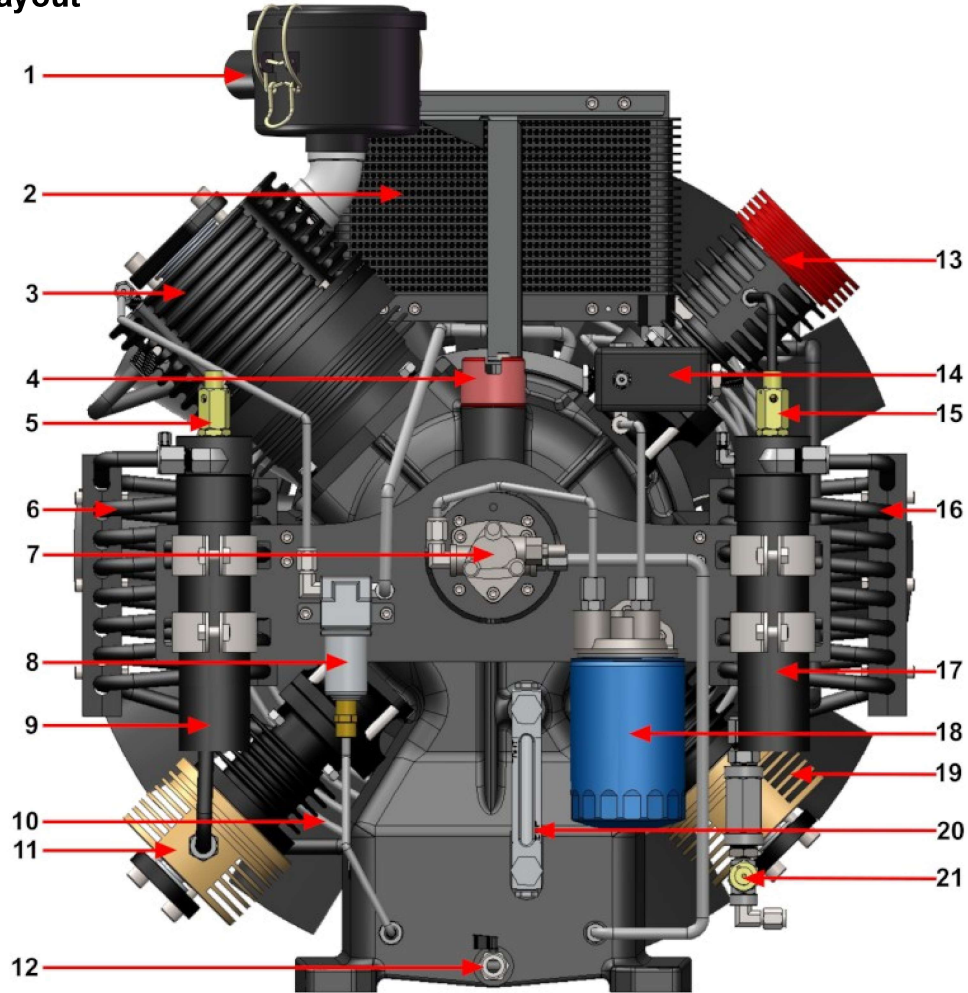

Figure 4.2 Block Components
Table 4.1: Block Component Identification for Figure 4.2
1. Open the oil fill cap (Figures 4.2)
1. Position a pan below the oil drain (figures 4.2)